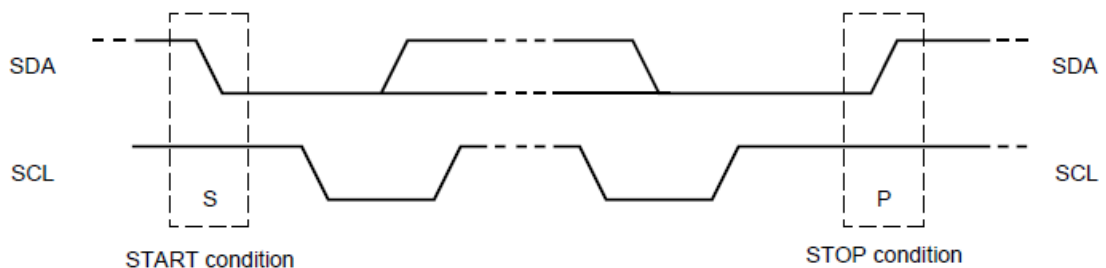

Fig.3.1 Start and Stop Condition
- Start and stop condition : A high to low transition of the SDA line while SCL is high defines a start condition. A low to high transition of the SDA line while SCL is high defines a stop condition. Please refer to Figure 3.1.